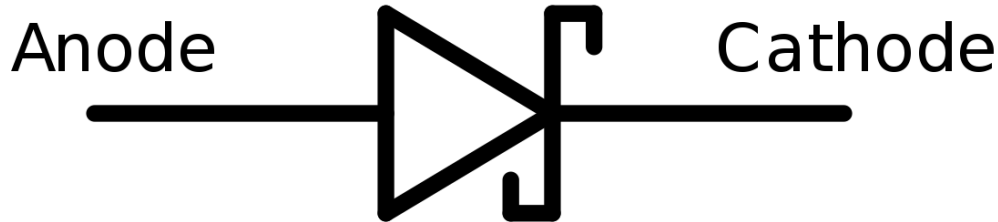

Figure 23: Schottky Diode
- ii. Show the symbol of a Schottky diode in Figure 23.